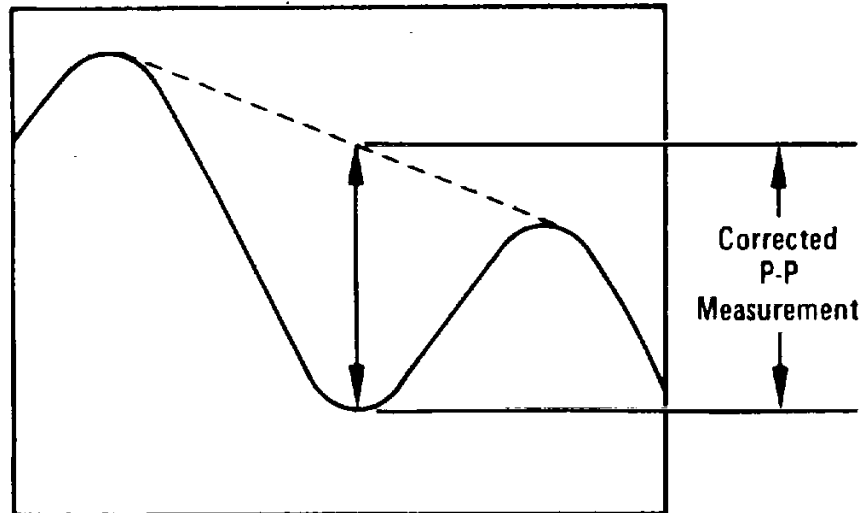
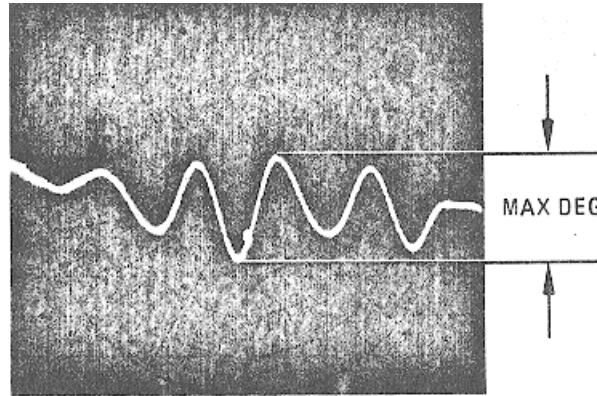

Figure 14. Slope Peak-To-Peak Measurement
Figure 15. TEST Port Open/Short Ratio Phase >2 MHz
If a peak-to-peak measurement is made in an area where there is some slope, a corrected reading can be obtained by connecting two adjacent upper peaks with a dotted line. Extend a vertical line up from the lower peak until it intersects the dotted line. This constructed vertical line is the averaged or corrected peak-to-peak measurement to be used (Figure 14). Avoid making peak-to-peak measurements at extreme slope changes.
(5) Measure the maximum peak-to-peak variation on the display (Figure 15) and record the results (See Figure 14):